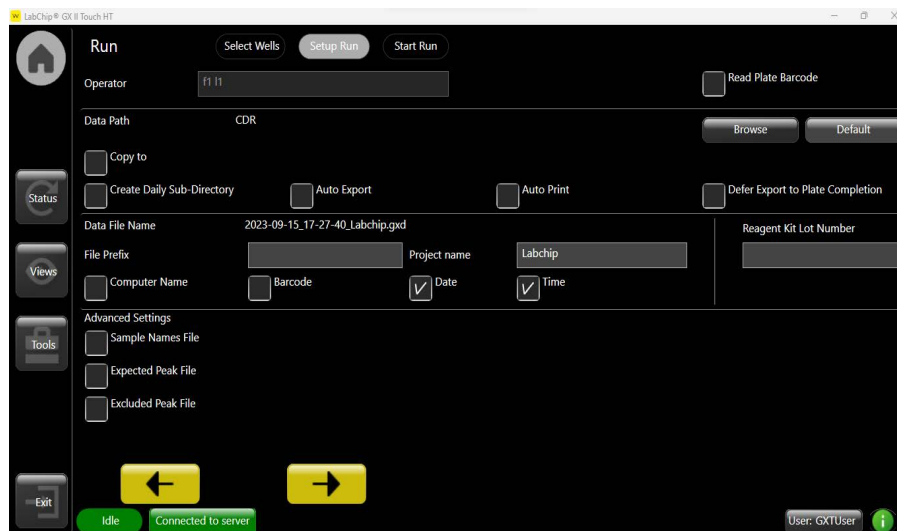

Figure 9. Setup Run Screen
- In the Setup Run screen, select the operator name, the option to read barcode, the destination of the file, the inclusion of sample names, expected peaks, and excluded peaks and the filename convention. Select *Auto Export* to export results tables automatically (Figure 9). Touch the green arrow. The Start Run screen opens.